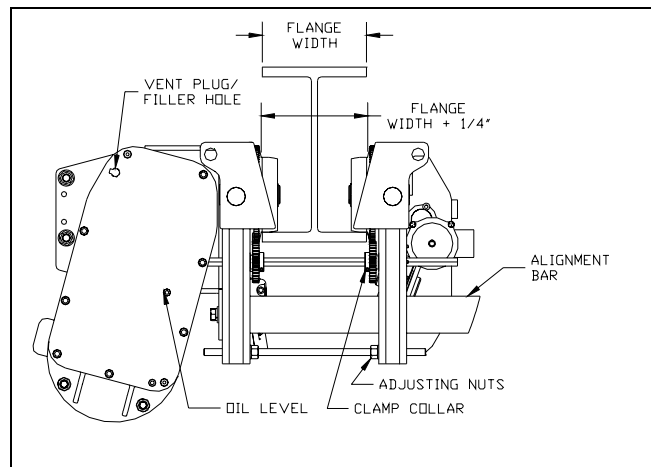

FIGURE 2-1. Trolley Wheel Spacing.
- a) **OPEN-END BEAM:** If the trolley can be installed directly from the end of the supporting beam, adjust the spacing between the trolley wheel flanges to be 3/16”-1/4” greater than the exact width of the beam flange (See Figure 2-1). Before adjusting the width of the trolley frame be sure to loosen the clamp collar nearest the traverse drive on the hex traverse drive shaft. Also, the electrical conduit/cable must not be constrained when attempting to adjust the trolley sides in or out.
- b) **CLOSED-END BEAM:** For trolleys which are to be mounted along the span of a beam not having open ends, the trolley must be adjusted in the same manner as described above to a width that allows clearance between the axles and the beam flange. Using proper lifting equipment, the trolley and hoist must then be lifted to the beam where it is to be installed. Once in position, adjust the spacing between the trolley wheel flanges to be 3/16"-1/4" greater than the exact width of the beam flange (See Figure 2-1). After tightening all adjusting bolts, the clamp collar, and all electrical conduit/cable clamps, carefully set the trolley on the beam. Lubricate the wheel gear and pinion (**WG**, Section IV, Paragraph 4-3).
- a) Check Oil Level. (Figure 2-1) The gearcase has been filled with oil to the proper level. However this should be re-checked before operating the hoist.
Check oil level by removing the plug indicated in Figure 2-1. When properly filled, oil should be level with the bottom of the tapped hole. Fill to this level with oil as specified in Paragraph 4-2.e.